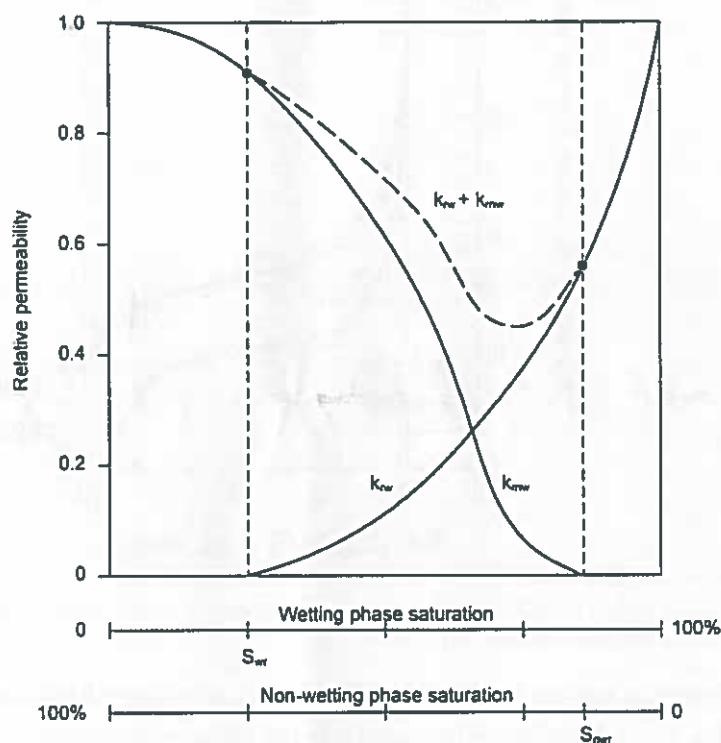

Figure 2 Relative permeability functions for the wetting and non-wetting fluid, i.e. respectively water and DNAPL
- g. In Figure 2. The relative permeability functions, i.e. "rel perms", are depicted for both the wetting and non-wetting fluid in a saturated, homogeneous porous medium.
Figure 2. is taken from the book of Mayer & Hassanizadeh, 2005¹ The dashed line represents the sum of both relative permeability functions $k_{rw} + k_{rnw}$. Note that, if both fluids are present $k_{rw} + k_{rnw} < 1$. Explain in words why this is the case.
- h. The maximum relative permeability of the *wetting phase* is much less as compared to the maximum relative permeability of the non-wetting phase, see Figure 2. Explain this difference in words. Hint: it has something to do with the different wetting behavior of both fluids in the porous medium....